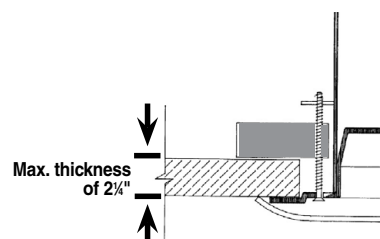

FIG. 4
- Figure 4 Enclosure installation from below ceiling without tile bridge. This blind-mount installation method, which is most common in plaster, drywall and retrofit applications, is accomplished by cutting an opening to size, inserting the enclosure and rotating the clamps. Max. ceiling thickness is 2 $\frac{3}{8}$ ".